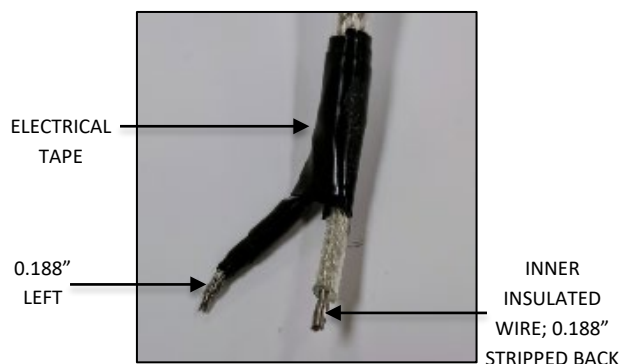
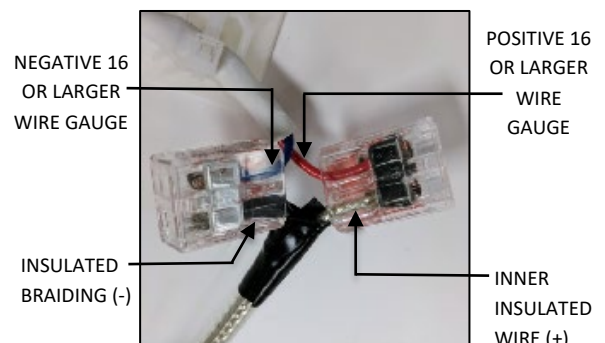

FIG. 24
FIG. 25
- Using electrical tape, insulate the twisted strands leaving 0.188" exposed for connections. Strip off 0.188" of the inner insulation as you normally would for 18AWG stranded core wire as shown in FIG. 24 below. Connect the inner insulated wire (+) to the positive 16 gauge or larger wire ran in step 5 at the hanging bracket and Connect the outer braiding (-) to the negative 16 gauge or larger wire ran in step 5 at the hanging bracket FIG. 25 below.